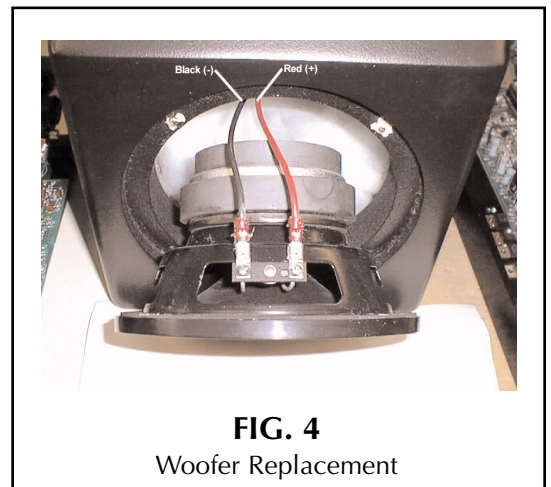

FIG. 4
1. Remove (4) screws from woofer using a 3/32" Allen Wrench
3. Disconnect (2) speaker wires (**FIG. 4**)